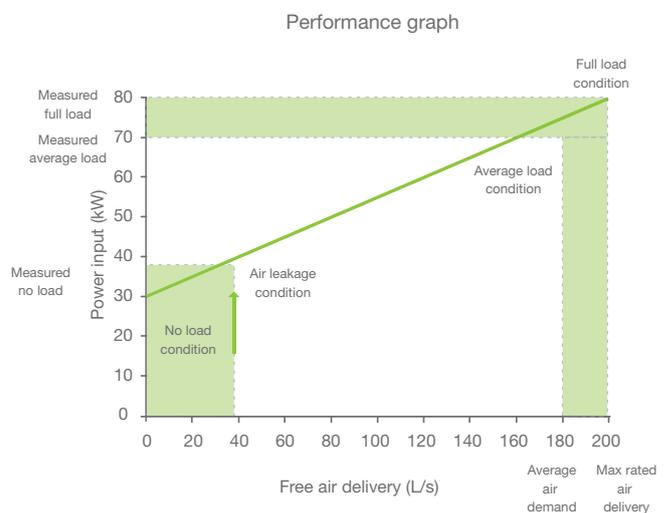

Figure 10: Typical Compressor Performance Graph⁹
5. Using Figure 10, a power use corresponding to the measured air leakage level (kW) and a power requirements corresponding to the 'no load' condition (kW₂) can be established. From these graph readings, the actual net power use attributable to air leakage can then be calculated as follows: